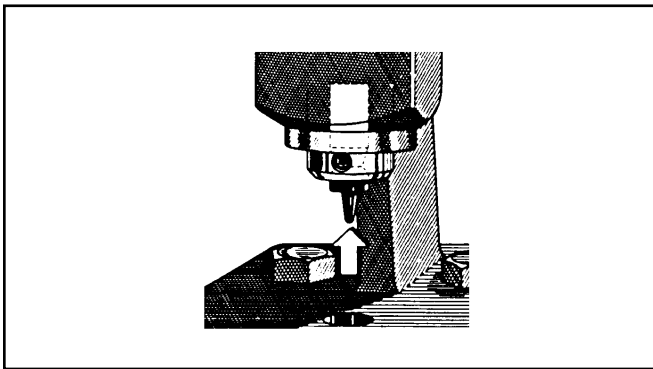

Figure 15. Replacing the Punch
5. Insert a new punch into the holder and push it up until it is fully seated (Figure 15). Secure the punch to the chain breaker holder by fully tightening the set screw.